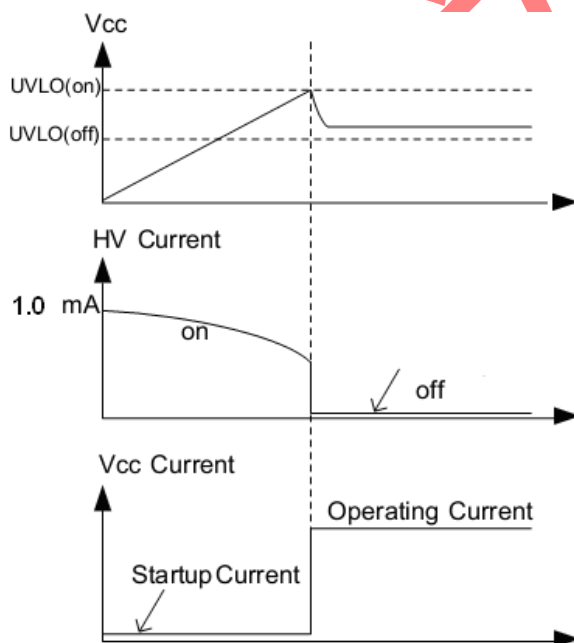

Fig. 1
*Latch PIN FUNCTION OPTION (See below Fig.1)
GR8875 series implements a high-voltage startup circuit, during the startup; high-voltage current sources are turned on and provide the start-up current as well as charge the Vcc capacitor. When the Vcc voltage is higher than the UVLO (on) threshold, the high-voltage current source will be turned off. Its leakage current is very low (30uA), which only consumes little power. By using such configuration, the traditional startup resistor is not needed and power consumption will reduce. (Refer to Fig. 1).
respectively. This hysteresis shown in Fig.1 ensures that the start-up capacitor will be adequate to supply the chip during start-up.